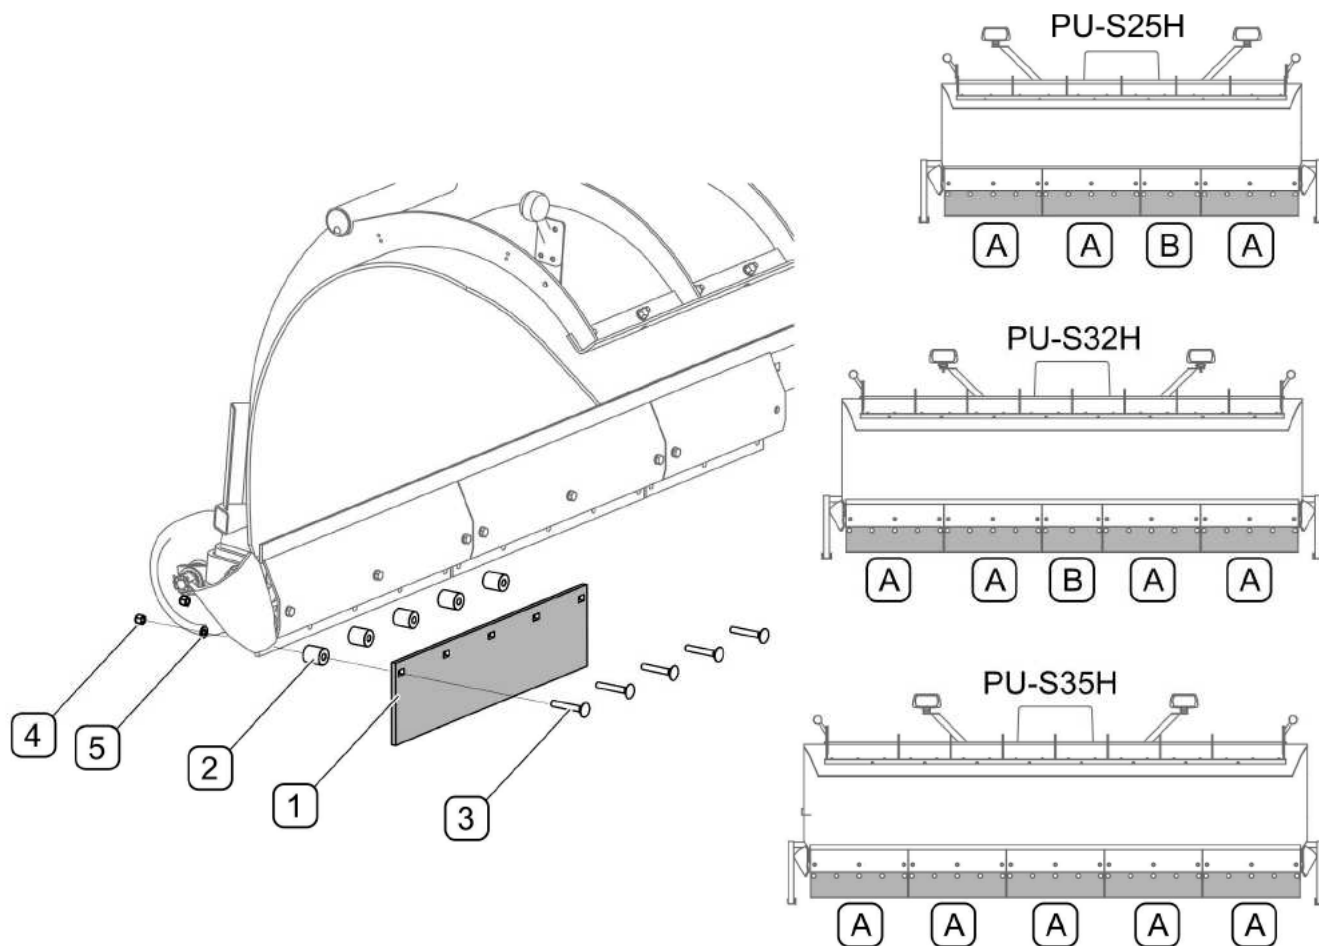

FIG. 5.2 Replacement of metal plough blades
(1) - metal plough blade; (2) - sleeve; (3) - Z M12x80-8.8 bolt; (4) - M12 nut; (5) - Z12,2 spring washer; (A) - long segment; (B) - short segment
To remove a metal plough blade (FIG. 5.2), unscrew nuts (4) of an appropriate segment, remove bolts (3) and sleeves (2). Fit an appropriate segment of plough blade (A) or (B), depending on the plough model (TAB. 5.2). Install in reverse order.